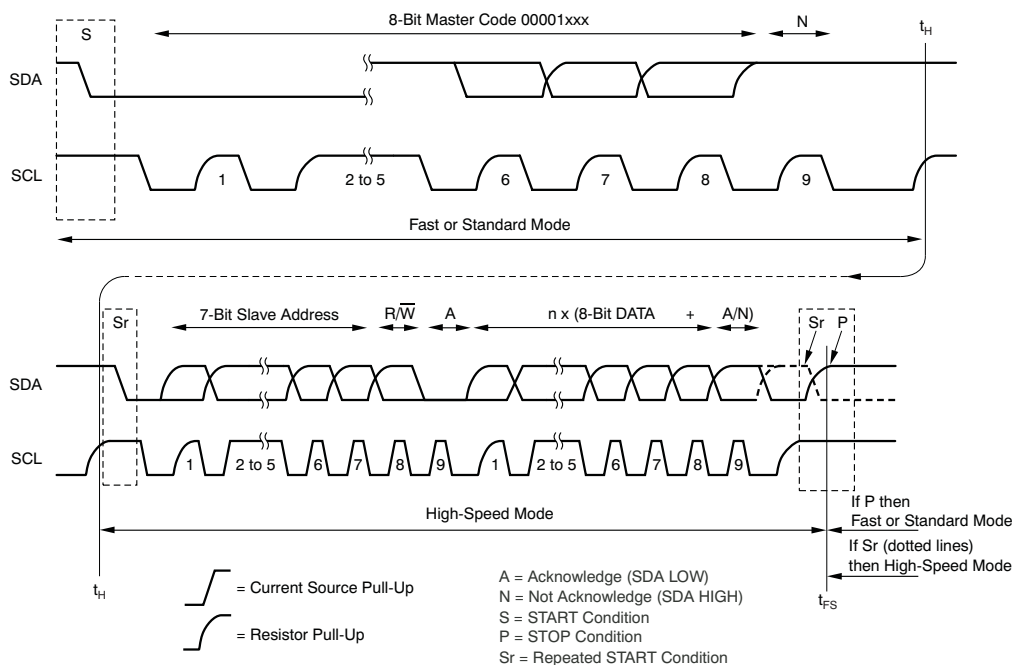

Figure 30. Complete High-Speed Mode Transfer
When the bus master sends the address byte with the  $\overline{\text{R/W}}$  bit = 0, and the TSC2017 sends an acknowledge, the pen-interrupt function is disabled. If the command that follows the address byte contains  $\text{PD0} = 0$ , then the pen-interrupt function is enabled at the end of a conversion. This action is approximately 100 $\mu\text{s}$  (12-bit mode) or 50 $\mu\text{s}$  (8-bit mode) after the TSC2017 receives a STOP/START condition, following the receipt of a command byte (see Figure 31 and Figure 30 for further details about when the conversion cycle begins).
1. START condition (S)
3. Not-acknowledge bit (N)
Figure 30 shows this sequence in more detail. Hs-mode master codes are reserved 8-bit codes used only for triggering Hs mode, and are not to be used for slave addressing or any other purpose. The master code indicates to other devices that an Hs-mode transfer is about to begin and the connected devices must meet the Hs mode specification. Because no device is allowed to acknowledge the master code, the master code is followed by a not-acknowledge bit (N).
After the not-acknowledge bit (N) and SCL have been pulled-up to a HIGH level, the master switches to Hs-mode and enables the current-source pull-up circuit for SCL (at time  $t_{H1}$  shown in Figure 30). Because other devices can delay the serial transfer before  $t_{H1}$  by stretching the LOW period of SCL, the master enables the current-source pull-up circuit when all devices have released SCL, and SCL has reached a HIGH level, thus speeding up the last part of the rise time of the SCL.